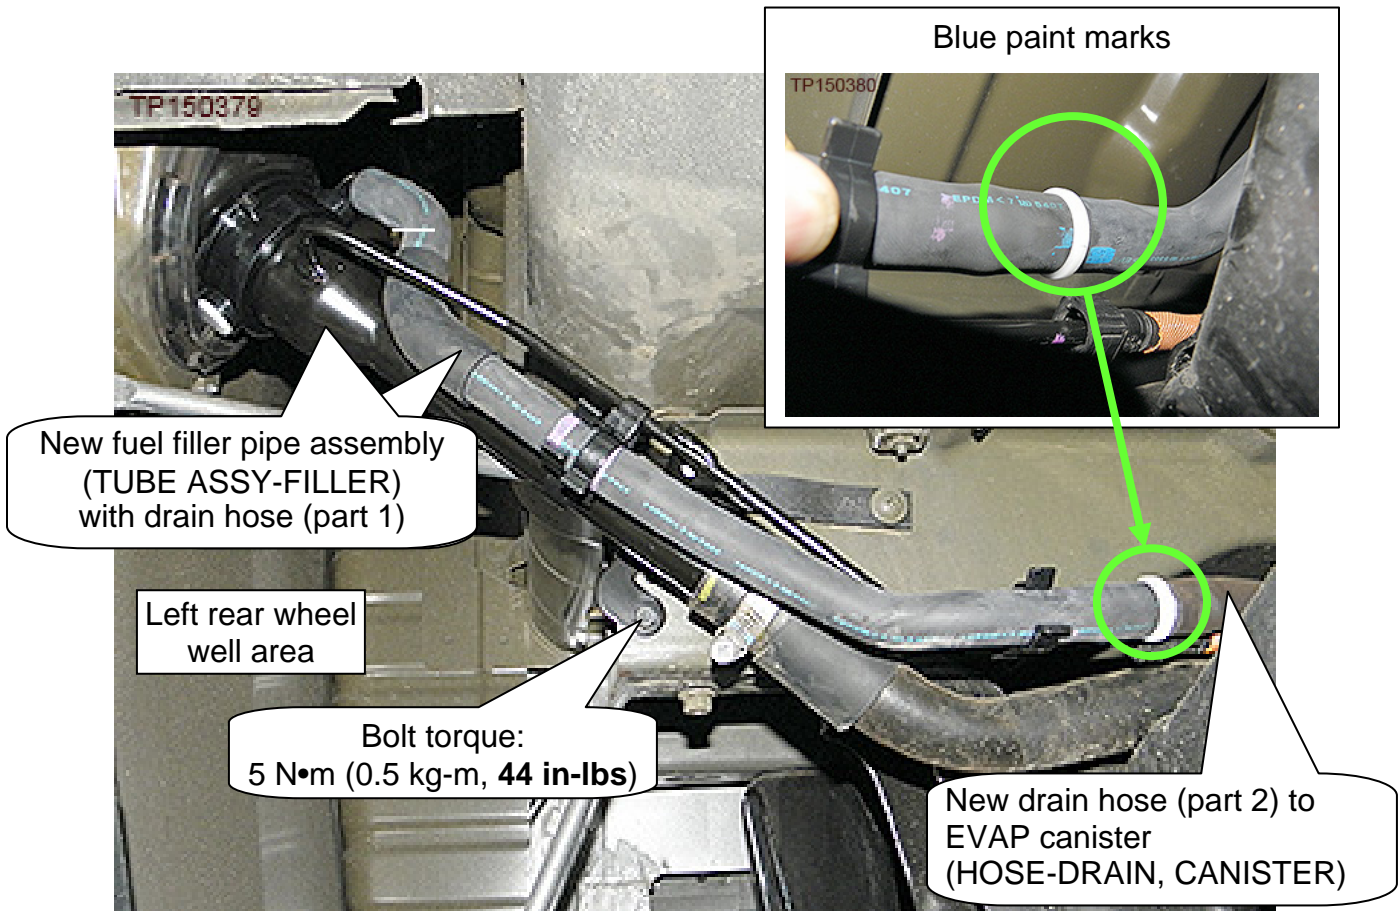
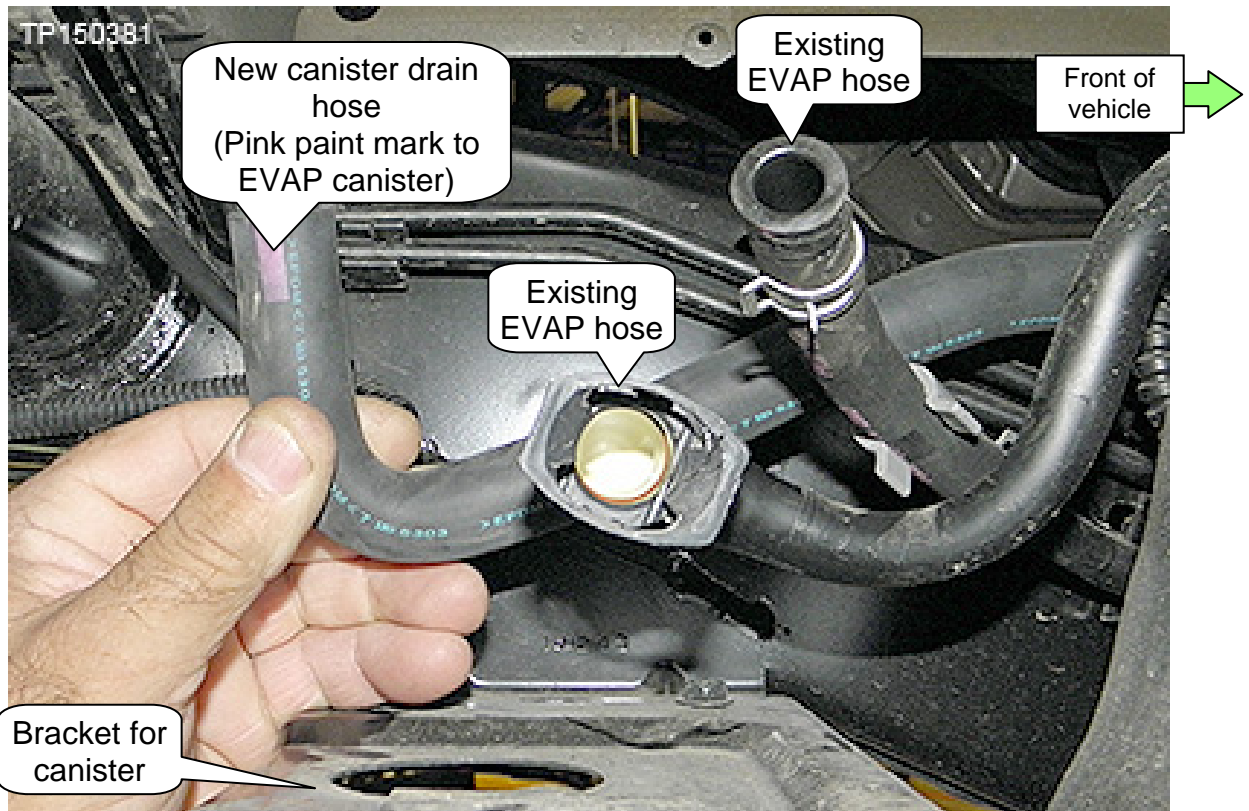

Figure 3
Figure 4
3. Match the blue paint marks of the two new drain hoses (Figure 3) and then connect them.
5. Route the new drain hose (part 2, HOSE-DRAIN, CANISTER) from where it was just attached (shown in Figure 3) to the EVAP canister as shown in Figure 4.
- Figure 4 is viewed while looking at the driver's side frame rail from passenger side of vehicle.